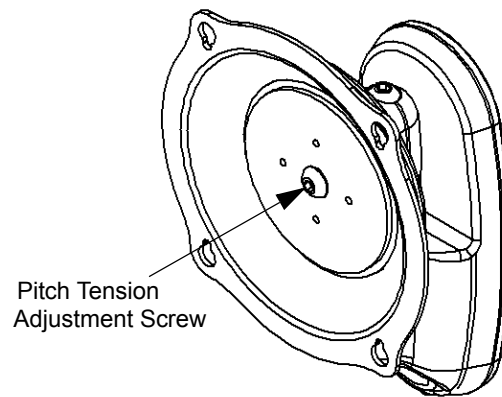

Figure 12: Pitch Adjustment
1. Check adjustment screw on the Centris interface to ensure that the screw is tight. (see figure 12)
2. If needed, use a 3/16" hex wrench (150) to tighten the screw.